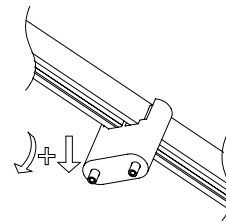

Fig. 3
1. Insert **Power Cables** on **Height Adjustable Luminaire** into **Plungers** of **Height Adjustable Luminaire Hanger** (Fig. 3)